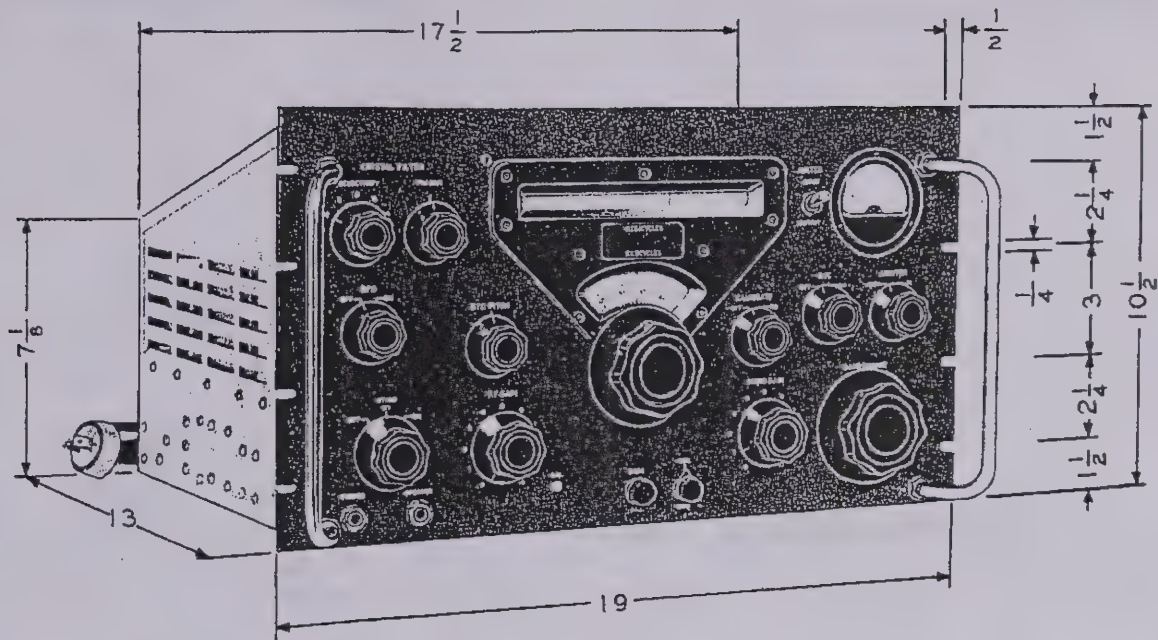

Figure 2-1. 51J-3 Mounting Dimensions
2.2.1. GENERAL. - The receiver should be mounted in a standard rack. Outline and mounting dimensions are given in figure 2-1. The front panel is slotted for mounting at 1-1/2, 3-3/4, 6-3/4 and 9 inches from the bottom. Panel height is 10-1/2 inches and panel width is 19 inches.